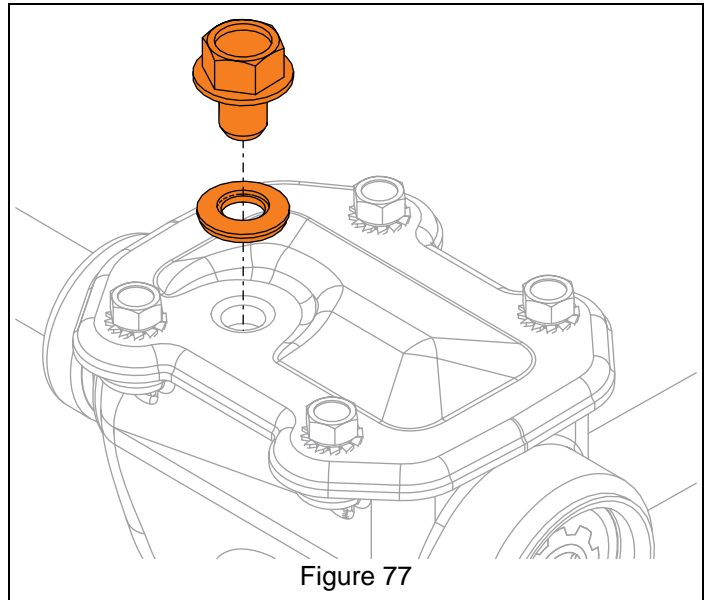

Figure 77
3. Remove drain plug and seal washer from gearcase. See Figure 77.